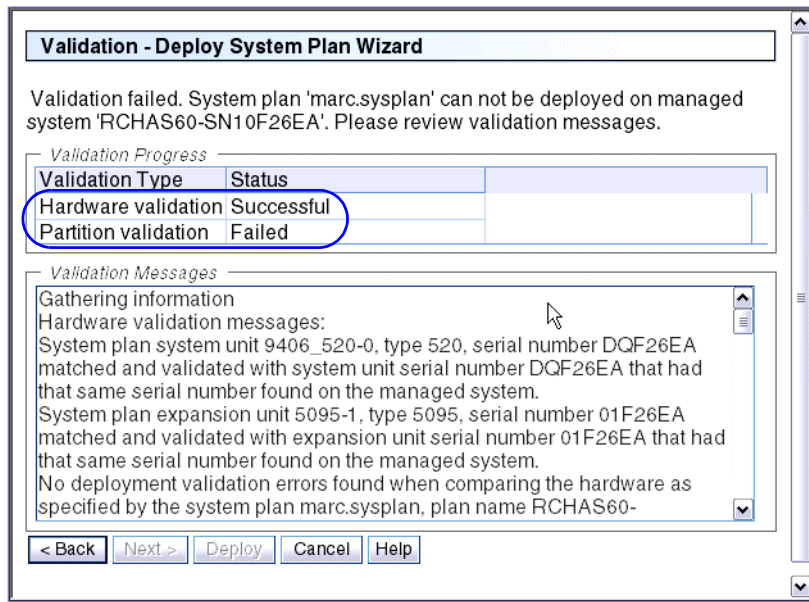

Figure 4-24 Deployment validation summary (partition failed)
- The second example is related to a system plan that fails to deploy due to partition errors. Figure 4-24 shows successful validation for the hardware part, and failed validation for the partition validation type.